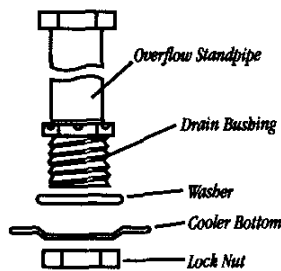

FIGURE 6
- Connect (copper/pvc/garden hose) to drain bushing and drain in accordance to local codes (see Figure 6).